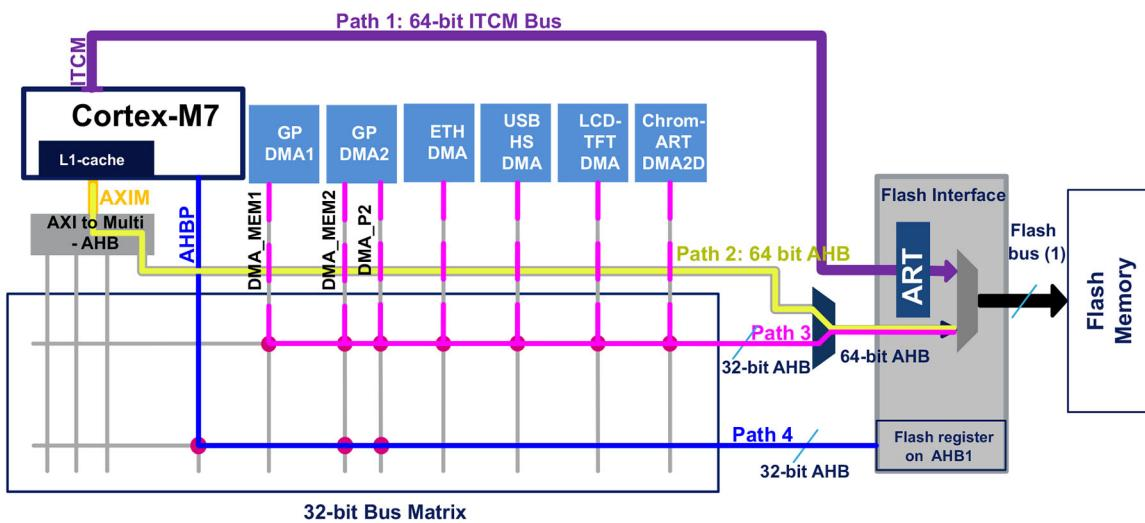

Figure 3: How the flash memory is accessed in an STM32F7 MCU
Looking at Figure 3¹⁰, you can see that the Cortex-M7 core has three distinct paths to access the flash controller (and so the flash memory). Before we describe these three paths, it is important to note a fundamental thing: the Cortex-M7 core already provides an integrated L1-cache. This cache has two dedicated cache pools, each one 64KB wide, one dedicated to the *I-Bus* and one for the *D-Bus*: this differs from other STM32 families, where data and instruction caches are implemented exclusively inside the ARTTM Accelerator.
- **A 64-bit ITCM interface:** it connects the embedded flash memory to the Cortex-M7 via the ITCM bus (Path 1 in Figure 3) and it is used for the program execution and data read access for literal values. **The write access to the flash memory is not permitted via this bus.** The flash memory is accessible by the CPU through ITCM starting from the address 0x0020 0000. Being the embedded flash memory slower than the CPU core, the ART™ Accelerator allows *0-wait* execution from the flash memory at a CPU frequency up to 216MHz. The STM32F7 ART™ Accelerator is available only for a flash memory access on the ITCM interface. It implements an unified instruction and branch cache of 256 bits x 64 lines in the STM32F74xxx and STM32F75xxx and 128/256 bits x 64 lines in the STM32F76xxx and STM32F77xxx devices following the bank mode selected¹¹. The ART™ Accelerator is available for both the instruction and data access, which increases the execution speed of sequential code and loops. The ART™ Accelerator implements also an instruction prefetch buffer.
- **A 64-bit AHB interface:** it connects the embedded flash memory to the Cortex-M7 via the AXI/AHB bridge (Path 2 in Figure 3). It is used for the code execution, read and write accesses. The flash memory is accessible by the CPU through AXI/AHB bridge starting from the address 0x0800 0000 and it is cacheable (that is, it can use the L1-cache) reaching the same *0-wait* performances of the ART™ Accelerator. The L1-cache in Cortex-M7 cores can range from 4KB to 16KB. STM32F74xxx and STM32F75xxx MCUs provide two cache pools, one for the instructions (*I-Bus*) and one for the literal pools (*D-Bus*), each one 4KB wide. Instead, STM32F76xxx and STM32F77xxx MCUs provide two cache pools each one 16KB wide. The L1-caches on all Cortex-M7 cores are divided into lines of 32 bytes. Each line is tagged with an address. The data cache is 4-way set associative (four lines per set) and the instruction cache is 2-way set associative. This is a hardware compromise to keep from having to tag each line with an address.
- **A 32-bit AHB interface:** it is used for DMAs transfers from the flash memory (Path 3 in Figure 3). The DMAs flash memory access is performed starting from the address 0x0800 0000.
A fourth path exists (see Figure 3) through the *Advanced Bus Peripheral* (AHBP) interface, and it is reserved to the access to flash peripheral registers inside the 0x4000 0000 peripheral mapped region.